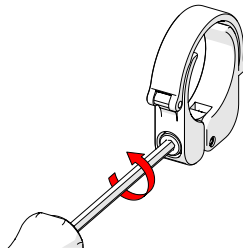

Fig. 76 - Loosen clamp screw
1. Loosen the clamp screw using the supplied 3 mm hex driver (Fig. 76).